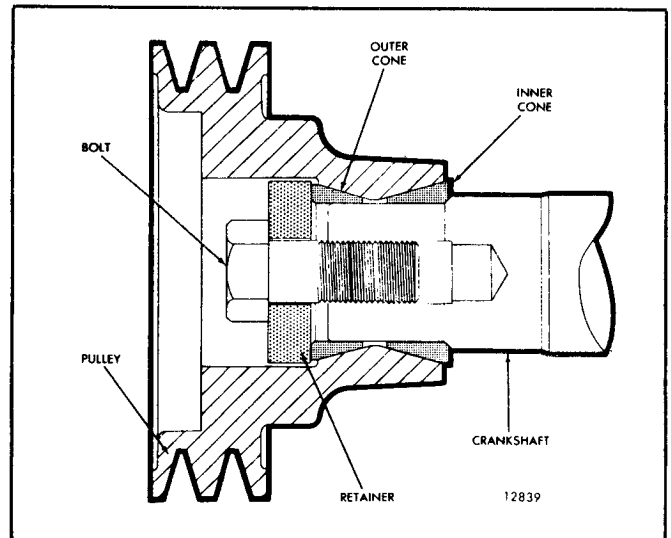

Fig. 2 - Cone Mounted Pulley
2. Slide the inner cone (Fig. 2), if used, on the crankshaft.
7. Slide the outer cone (Fig. 2), if used, on the crankshaft.